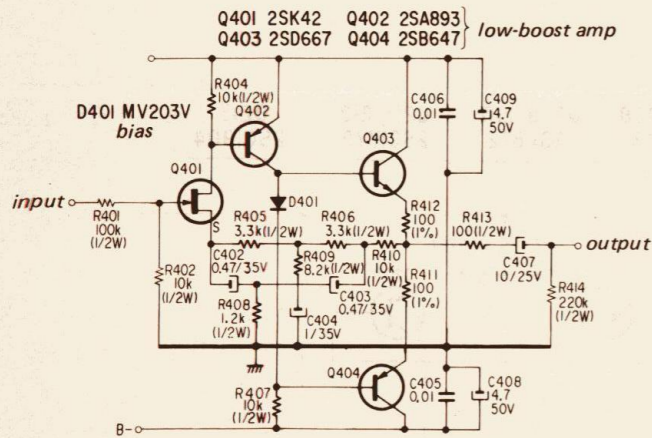

Fig. 1-4.
**Low-boost Amplifier (See Fig. 1-4)**